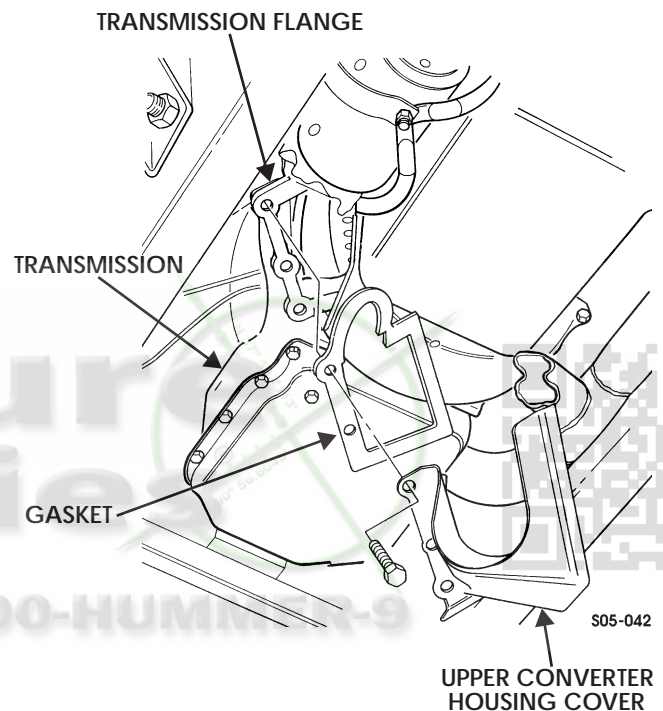

Figure 5-95: Upper Converter Housing Cover
1. Remove two bolts and upper converter housing cover from transmission flange (Figure 5-95).
1. Apply adhesive to gasket and install gasket on upper converter housing cover (Figure 5-95).